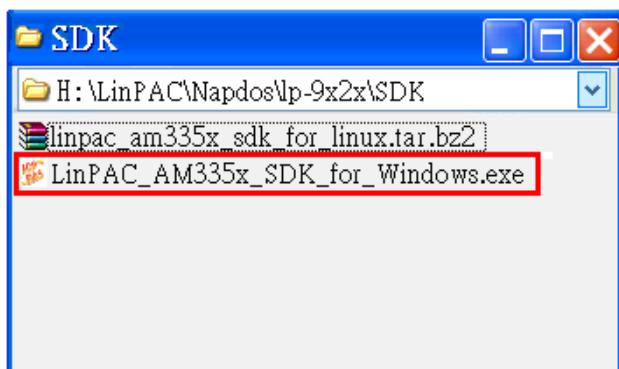
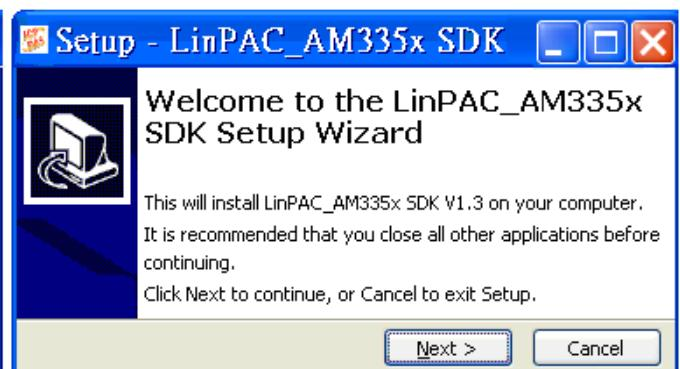

Fig. 3-7
Fig. 3-8
2. Open the \napdos\LP-9x21\SDK\ folder and double-click the icon for the “LinPAC_AM335x_SDK_for_Windows.exe” file, when the Setup Wizard is displayed, click the “Next>” button to continue, refer to Fig. 3-7 and Fig.3-8.